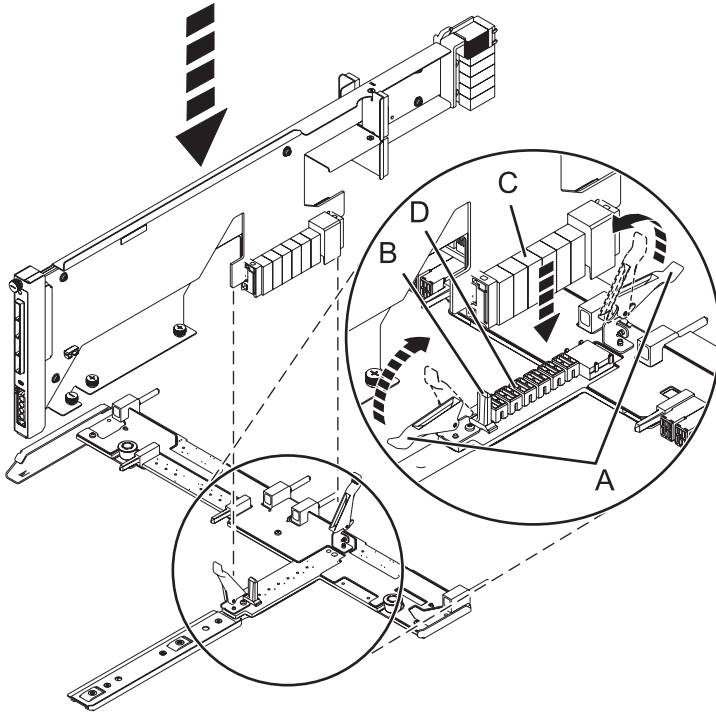

Figure 55. Installing the SAS conduit card into the midplane
- a. Place the card connector (C) on the midplane connection (D) using the guide track (B) to ensure a good connection.
- b. Lift the handle (A) to seat and secure the SAS conduit card to the midplane as shown in Figure 55 on page 72.